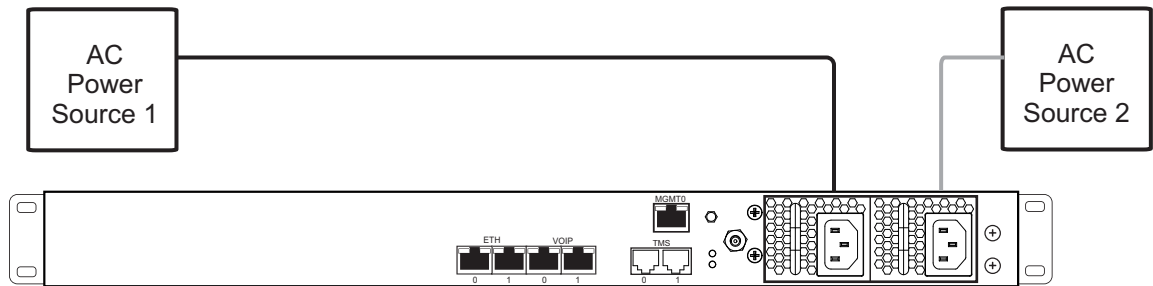

Figure 4.4
1. Connect an AC power cable between the AC connector of the TSBC-HW-TRANS and an AC supply. See Figure 4.4 on page 29.